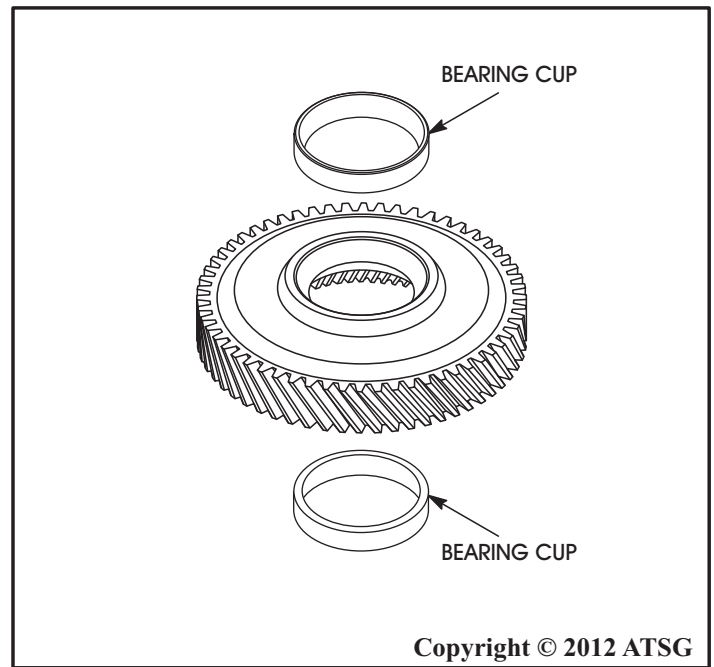

Figure 175
11. Install new bearing cups into the driven transfer gear, as shown in Figure 175, using the proper adapters.